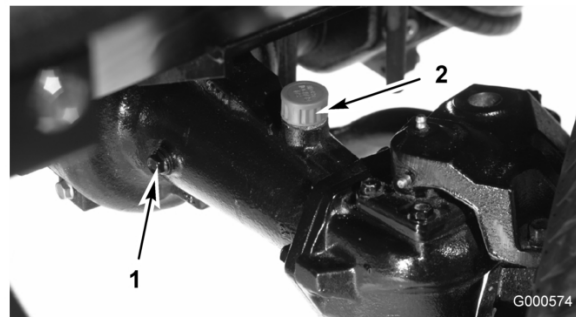

Figure 44
2. Remove a check plug from one end of the axle (Figure 44) and make sure that the lubricant is up to the bottom of the hole. If the level is low, remove the fill plug (Figure 44) and add enough lubricant to bring the level up to the bottom of the check plug holes.